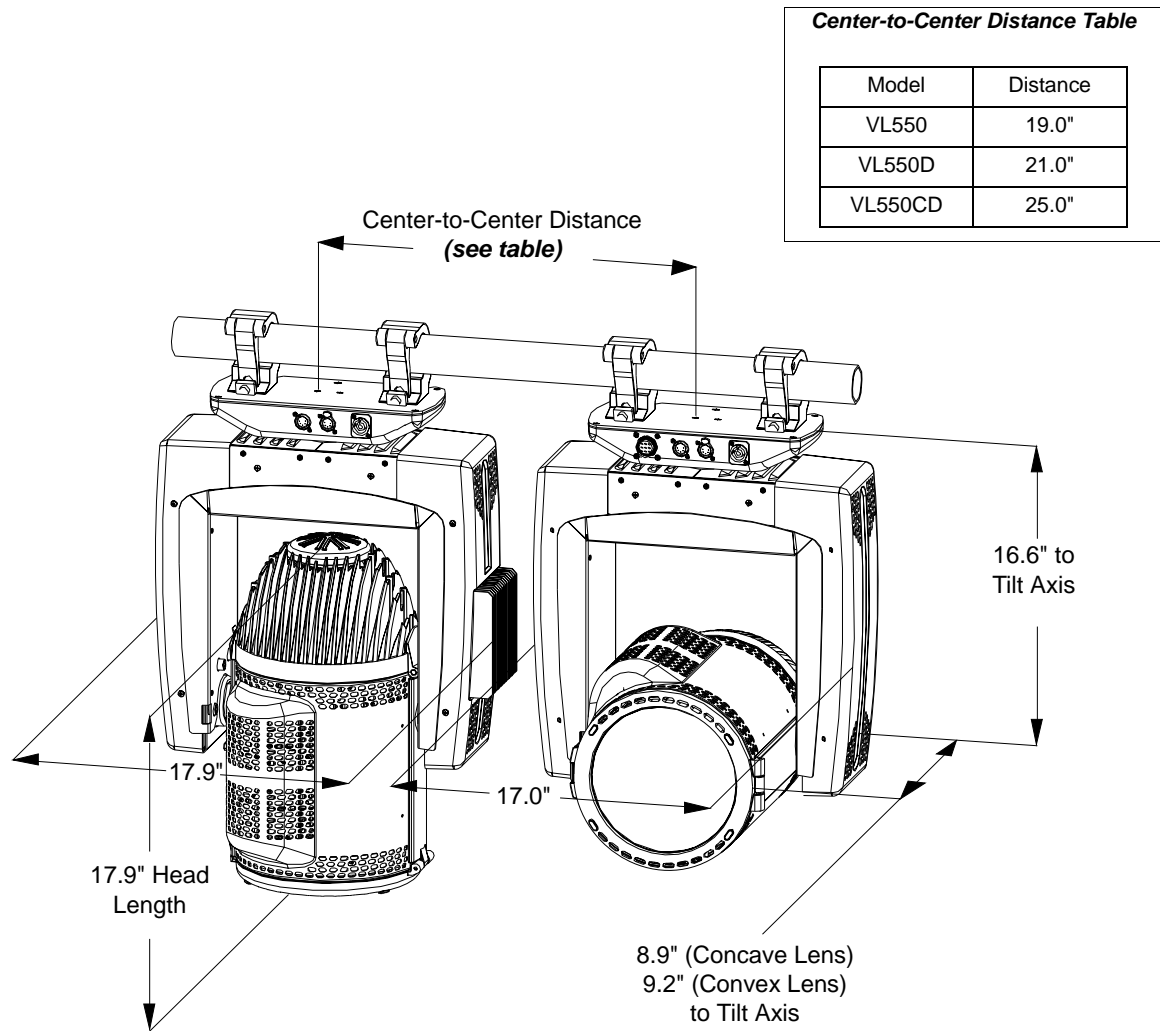

Figure 2-4: Hanging Dimensions and Clearances
Step 2. After installing truss hooks, the hooks should be oriented as shown in Figure 2-2 and Figure 2-4.
VL550 wash luminaires are not designed nor sufficiently stable to sit directly on its base (foot) in a floor installation application without a suitable floor mount plate. When used in this type of application, attach a floor mounting plate to the base and make sure the mounting surface is flat and sturdy. Be sure to leave enough space around the luminaire to allow proper, uninterrupted airflow for cooling and movement; see Figure 2-4.